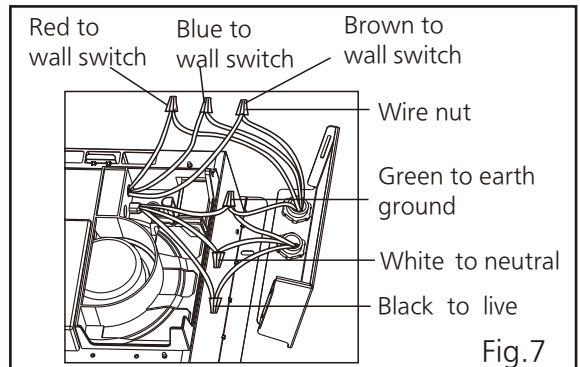

Fig.7
- ③ Refer to wiring diagram (Page.6) or Fig.9, follow all the local electrical safety codes. As well as the National Electrical code (NEC), Using UL approved wire nuts, connect house power wires and control lead wires to product wires.(Fig.7) Make sure all connections are fastened firmly after wiring is finished.